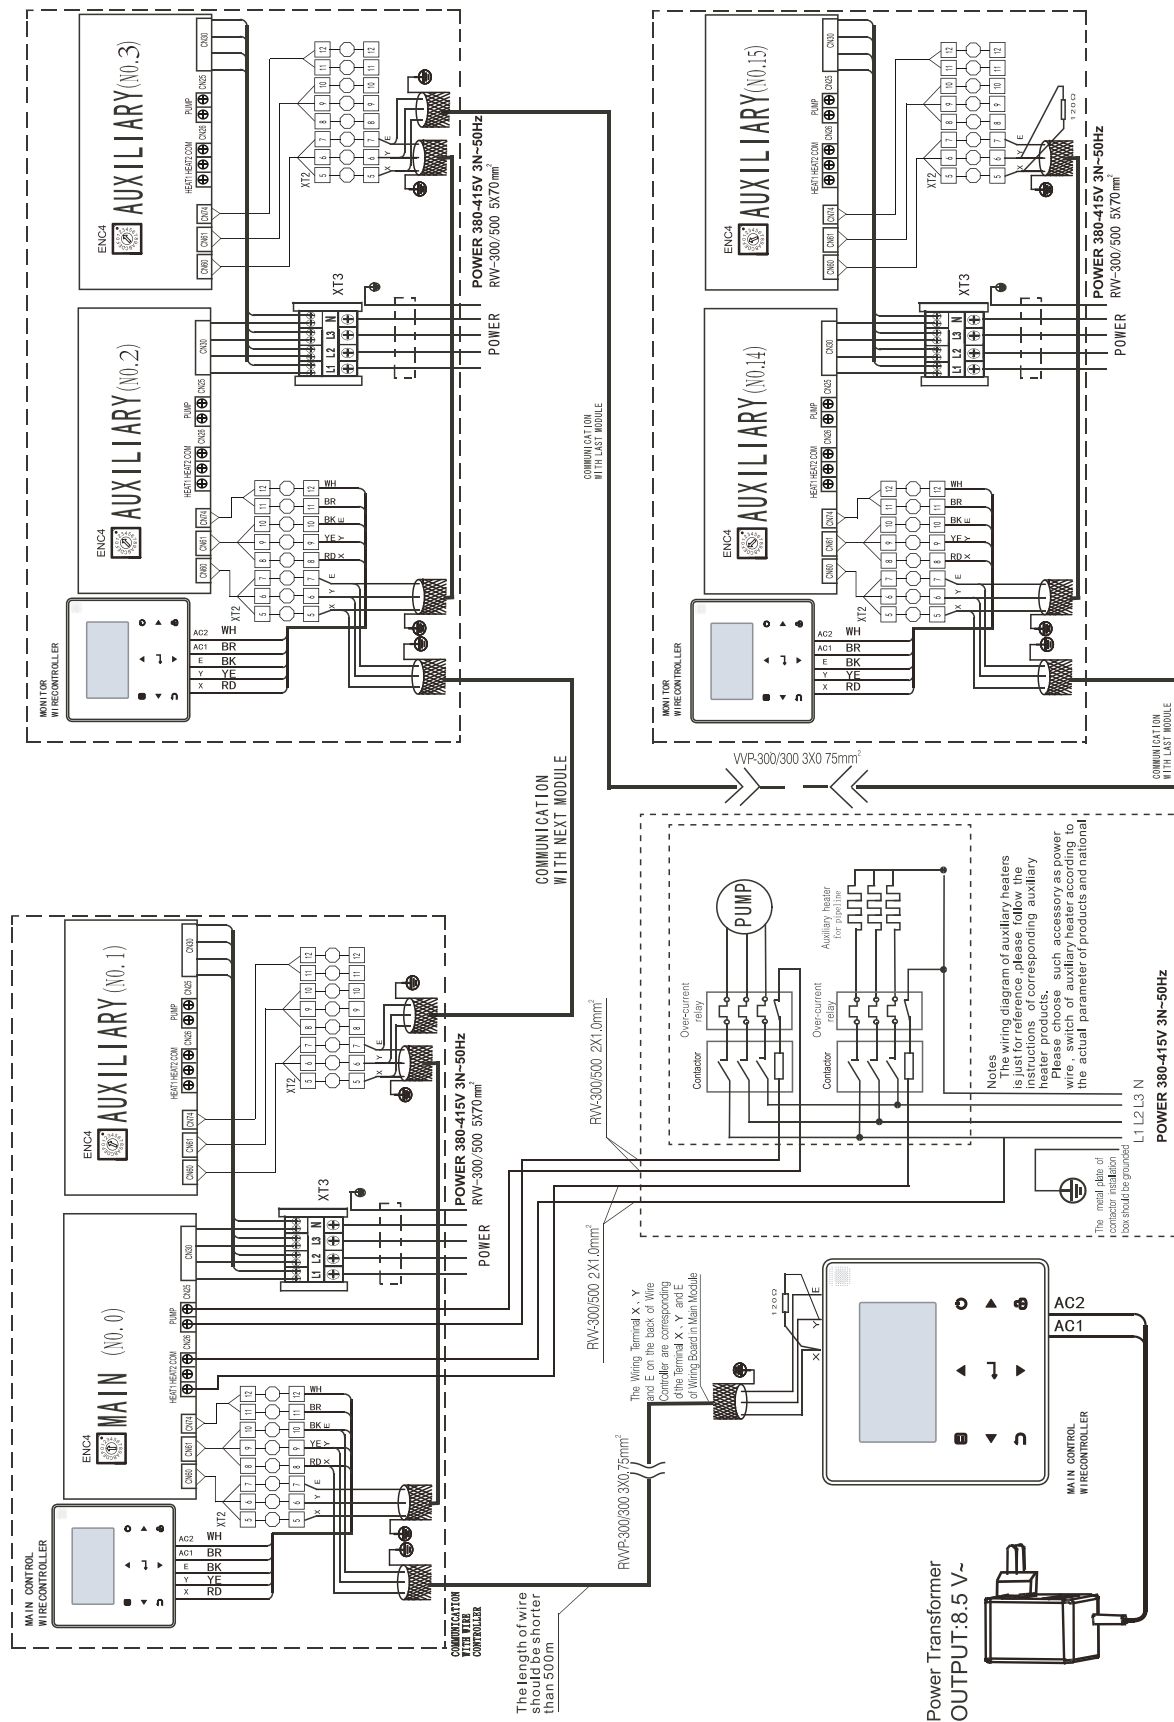

Fig. 8-28 Networking communication schematic of main unit and auxiliary unit for GIA-MCSU180RN8LB
- c) The inlet pipe of the evaporator must be provided with a target flow controller, to realize flow-break protection for the unit. Both ends of the target flow controller must be supplied with horizontal straight pipe sections whose diameter is 5 times that of the inlet pipe. The target flow controller must be installed in strict accordance with "Installation & Regulation Guide for Target Flow Controller" (Fig.8-28,8-29). The wires of the target flow controller should be led to the electric cabinet through shielded cable (see Electric Controlling Schematic Diagram for details). The working pressure of the target flow controller is 1.0MPa, and its interface is 1 inch in diameter. After the pipelines are installed, the target flow controller will be set properly according to the rated water flow of the unit.